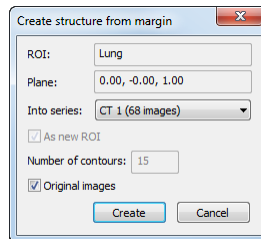

Figure 194 – Create structure from margin dialog
8. To create an new ROI from generated margin, press the **Make new ROI...** button. The **Create structure from margin** dialog (see Figure 194) will be opened, where: